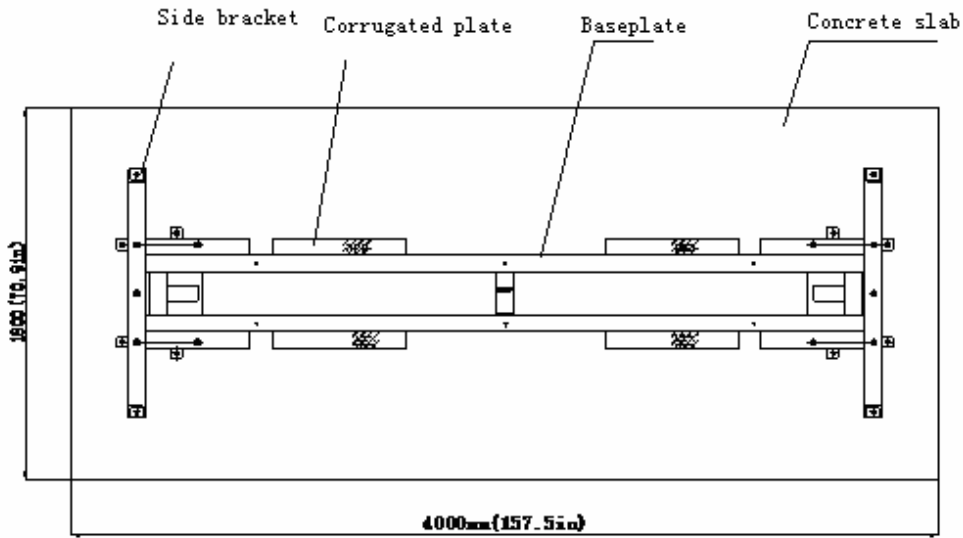

Fig.7b
TLT235SBA (E) Model: The Base plate and four pieces shown in Fig.7b) corrugated steel plate are connected by fasteners.(as